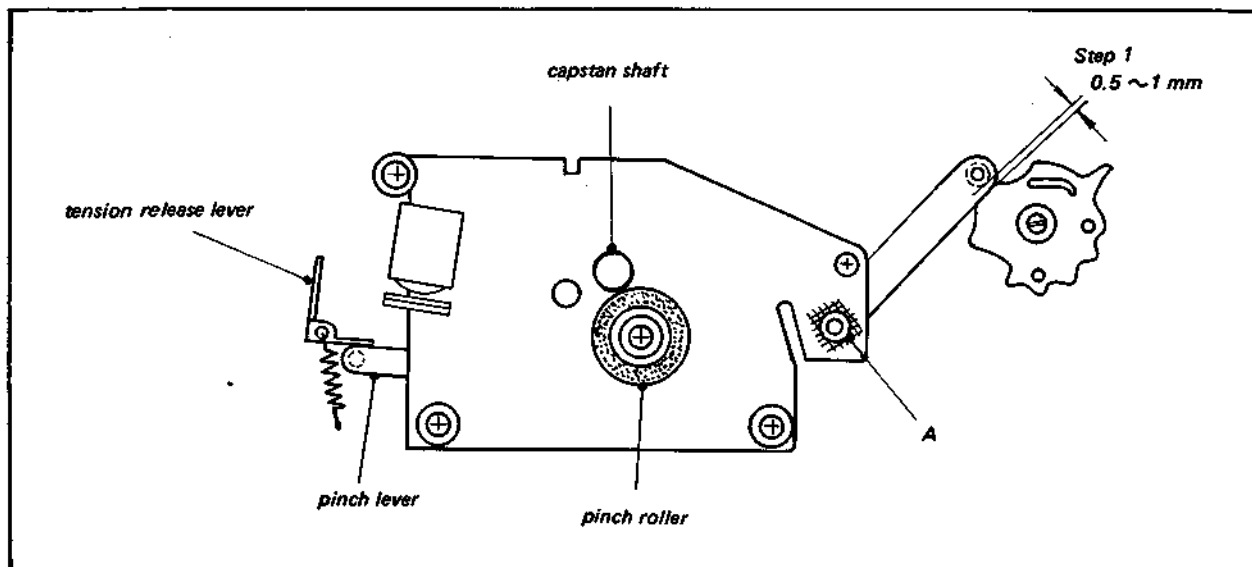
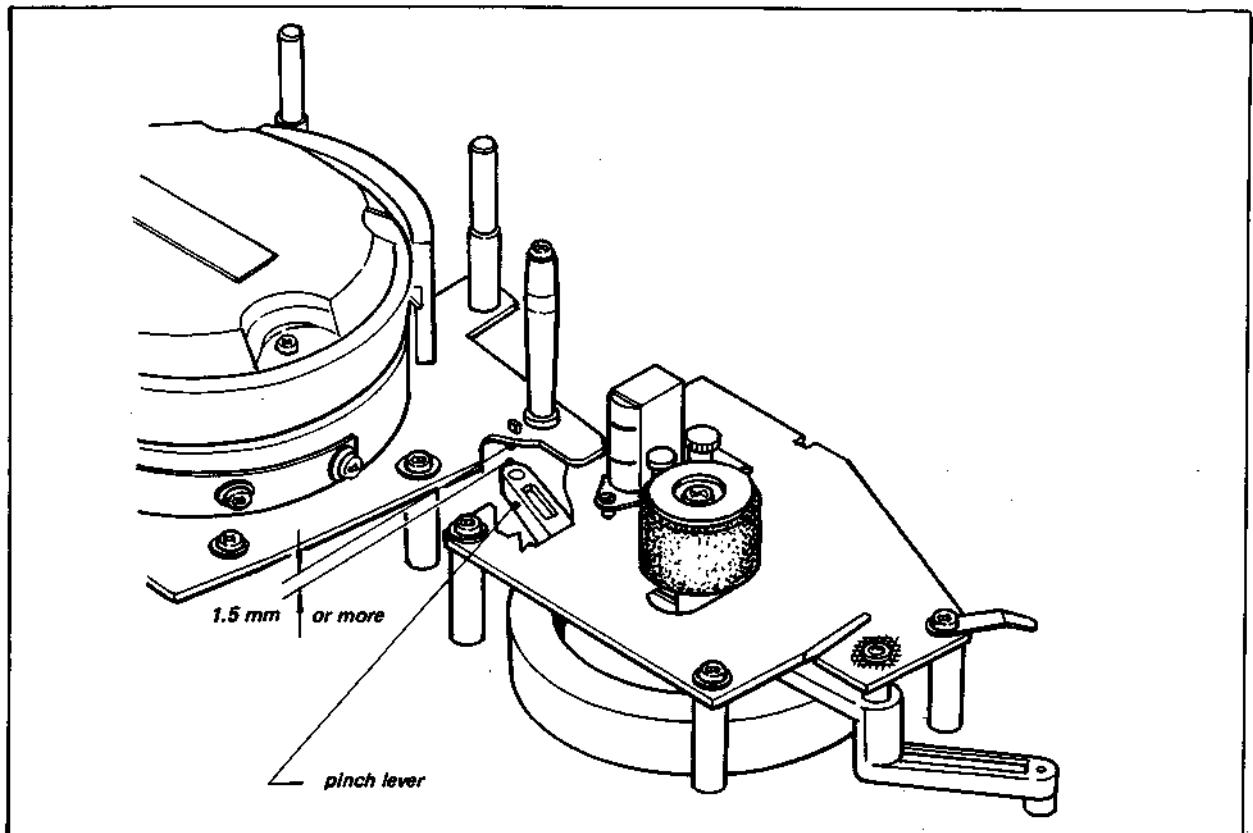
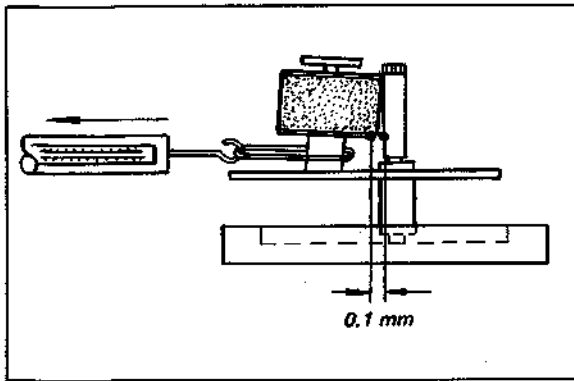

Fig. 4-21. Capstan deck adjustment
Fig. 4-23. Pinch lever adjustment
Fig. 4-24. Pinch roller adjustment
17. Put the Capstan Deck Assembly with Flywheel on the four posts of the chassis. Position the Pinch Lever with relation to Tension Release Lever as shown in Fig. 4-21.
1. Set the Function Lever to FORWARD. Check that the clearance between the Pinch Lever and the Function Selector Cam is 0.5 to 1 mm. If necessary, readjust the position of the Capstan Deck Assembly. See Fig. 4-21.
3. Set the Function Lever to FORWARD. Check that the clearance between the upper end of the Pinch Lever and the lower end of the Drum Mounting Deck is more than 1.5 mm. See Fig. 4-23. If it needs adjustment, bend "A" in Fig. 4-21, with a pair of pliers. Recheck Pinch Roller Pressure as described in Section 4-18.
1. Set the Function Lever to FORWARD. Check for 0.1 mm clearance between the lower end of the Pinch Roller and the Capstan Shaft when the upper end of the Pinch Roller contacts the Capstan Shaft. See Fig. 4-24. Bend "A" in Fig. 4-21 with a pair of pliers as needed to obtain the correct spacing.
2. Place the Function Lever in the FORWARD position. Make a loop in a piece of string and attach the spring scale around the base of the Pinch Roller Shaft. See Fig. 4-24. Pull the scale in the direction indicated by the arrow. Check the reading when the Pinch Roller just leaves the Capstan Shaft. It should be between 1.5 and 2.2 kg.